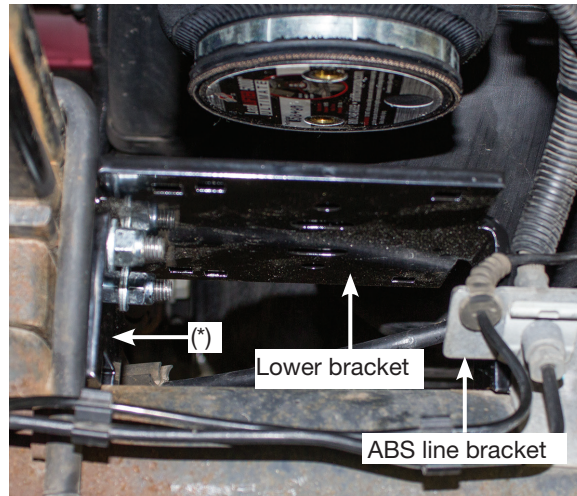

fig. 15
- Driver's (left) side: Set one of the lower brackets on the axle making sure the inside leg is outboard (leaf spring side) of the ABS line bracket on the axle (Figs. 15 & 16). It may be necessary to angle the lower bracket into position. Make sure the lower bracket is pushed against the leaf spring and in between the stock U-bolts.